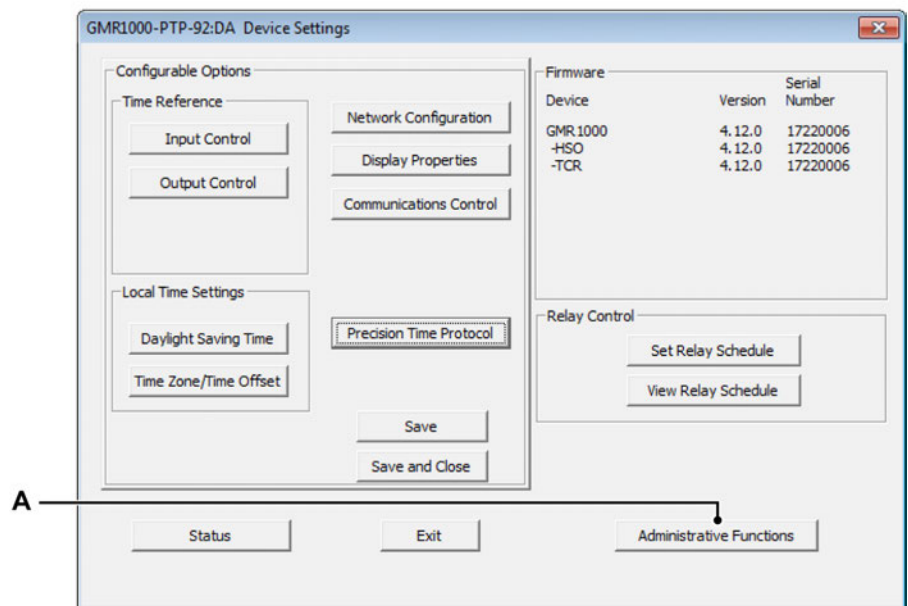

Figure 14.76: GMR1000 PTP Device settings
- 7 Finally, close the Advanced (data sets) and PTP - Precision Time Protocol windows. This will bring back the GMR1000 PTP device settings window (see Figure 14.76).
- 8 As the IRIG signal contains no date, this needs to be entered manually. Open the **Administrative Functions** dialog with the **Administrative Functions (A)** button (see Figure 14.76).